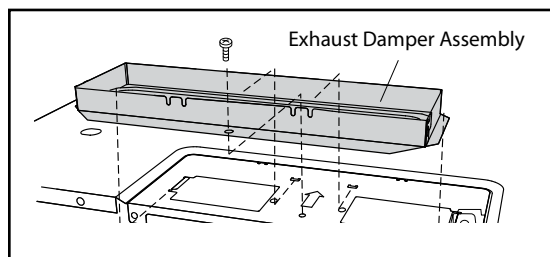

Figure 16
6. Attach the Exhaust Damper Assembly to the fan cover on the top of the outercase cabinet by sliding it into the slits in the same direction as the arrow. Use 1 Tapping Screw 4 x 12 mm from the INSTALLATION HARDWARE and tighten into place. See Figure 16.